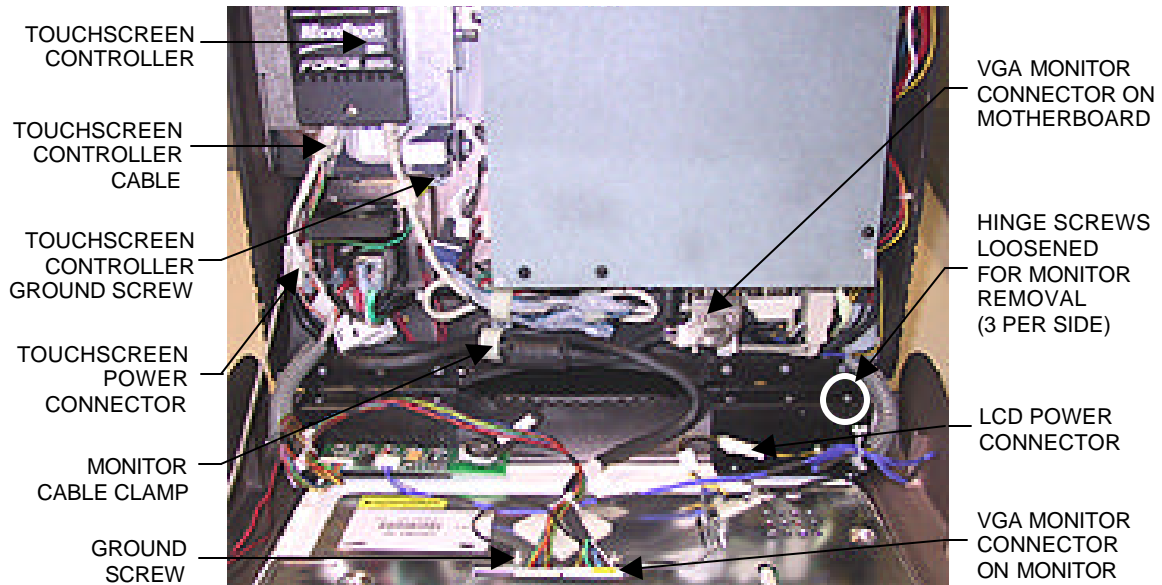
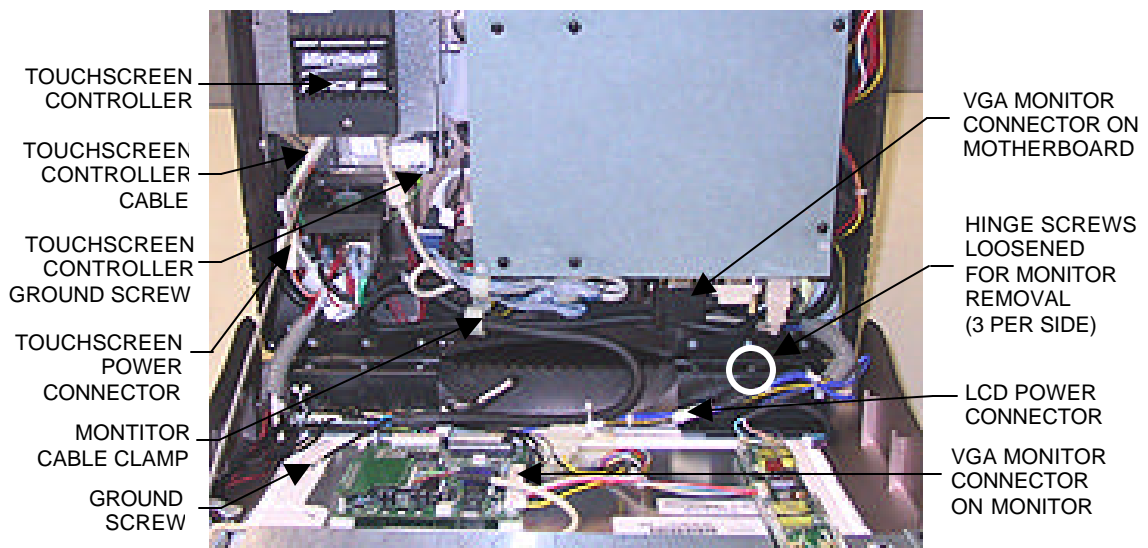

FIGURE 3 - CLOSEUP OF CPU SECTION, LCD MONITOR WITH INTERIOR CIRCUIT BOARDS
FIGURE 4 - CLOSEUP OF CPU SECTION, LCD MONITOR WITH EXTERIOR CIRCUIT BOARDS
5. Remove the ground screw attached to the VGA monitor cable, then disconnect the cable from the monitor and remove it from the cable clamp. Also disconnect the other end of the cable from the motherboard. See Figure 3 for monitors with interior circuit boards and Figures 4 and 5 for monitors with exterior circuit boards. NOTE: Monitors with exterior circuit boards will have the ground screw attached in one of two places. Be sure to refer to Figures 4 and 5.
7. Disconnect the LCD power connector. See Figures 3 and 4.
8. Remove the touchscreen controller ground screw under the hard drive (see Figures 3 and 4), then remove the touchscreen cable from the corrugated loom alongside the bezel.
9. Disconnect the touchscreen power connector (see Figures 3 and 4), then remove both the touchscreen controller cable and the touchscreen power cable from the clamp in the game.
11. Loosen the 3 screws on the monitor side of the hinges in order to carefully raise the hinges and allow room to remove the monitor. See Figures 3 and 4.
6. Replace the touchscreen controller cable and the touchscreen power cable in the cable clamp, then connect the touchscreen power connector. See Figures 3 and 4.
7. Replace the touchscreen controller cable in the corrugated loom alongside the bezel, then replace the touchscreen controller ground screw under the hard drive. See Figures 3 and 4.
8. Connect the LCD power connector. See Figures 3 and 4.
10. Connect the new VGA cable to both the monitor and the motherboard, then secure the cable in the clamp under the bottom left corner of the motherboard. Also replace the ground screw. See Figures 3-5. NOTE: Monitors with exterior circuit boards will have the ground screw attached in one of two places. Be sure to refer to Figures 4 and 5.